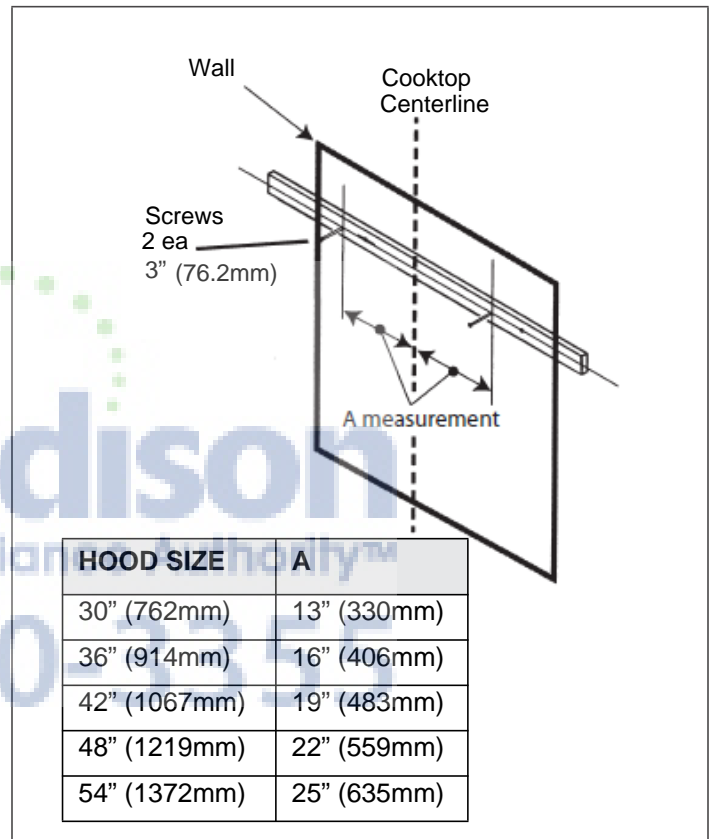

Figure 7: Hanging the Hood
7. Use (2) or (3), depending on model, 3" (76mm) screws to attach the bracket to the wall as shown in Figure 7. For support of longer hoods, use three studs. Countersink the screw heads to prevent interference with the hood.
8. On the wood bracket, mark the locations used to hang the hood according to Figure 7.